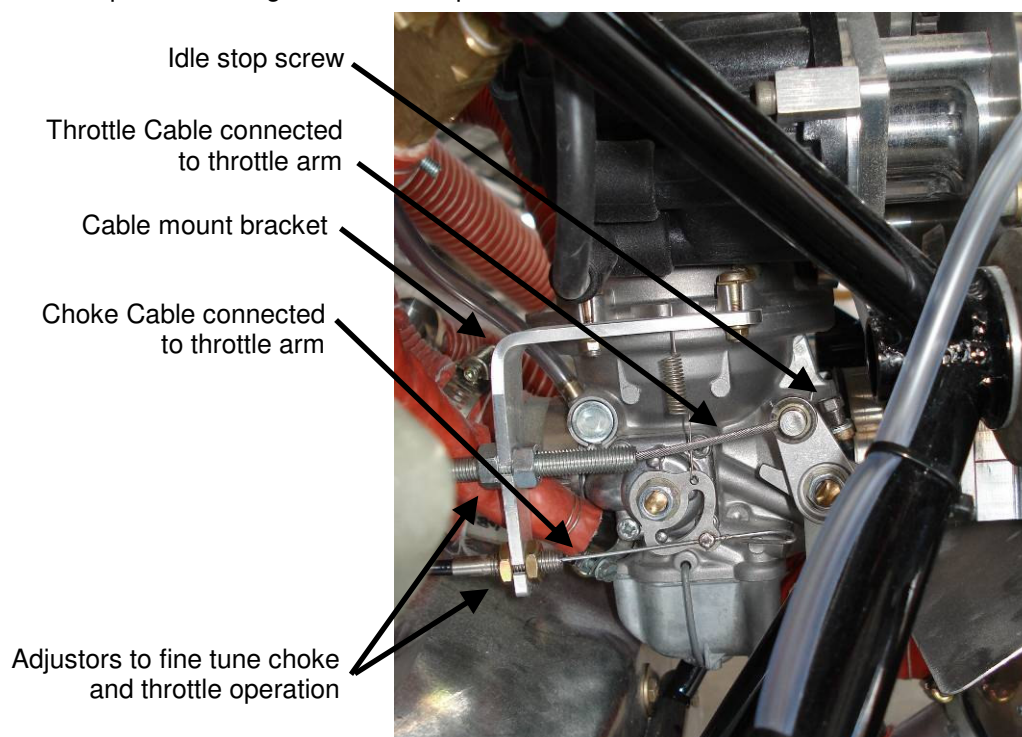

Figure 8. Choke and Throttle Connections to Carburettor
- The cables for the choke and throttle can be adjusted using the adjuster screws and nuts shown in Figure 8. A 7mm spanner is required.
- All Jabiru engines are run-in on a Dynamometer before delivery. It is impossible to accurately set the idle RPM when the engine is on the dynamometer, so the Idle Stop Screw (shown in Figure 8) must be adjusted as a part of the engine installation process.